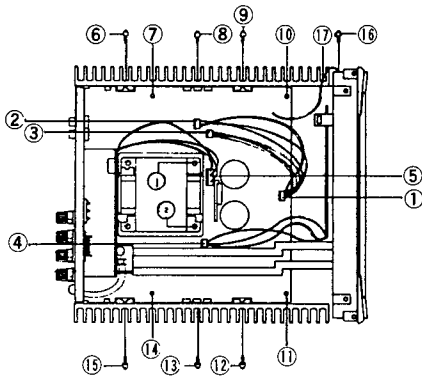

Fig. 5
2. Remove connectors ① to ⑤ in Fig. 5, and then remove screws ⑥ to ⑮
3. Remove screw ⑯ in Fig. 5, and then untie the ground wire ⑰
4. Remove the pcb-18 Fig. 5